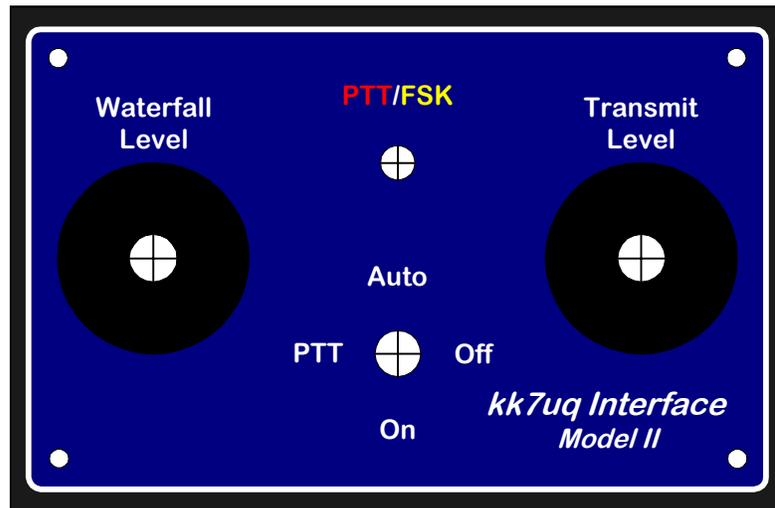

Figure 5.12 Panel Overlay
5.3.2.1.2 Panel Overlay - the overlay for the top cover carries the legends and identification of all functions on the panel. It is produced with an ink jet printer onto photo quality paper, hence it is thicker than normal printer paper and has a glossy finish. A reproduction of the overlay is shown in Figure 5.12. The actual overlay is provided in the interface kit. The overlay is made slightly larger than the panel size itself. This is to provide a trim area after the overlay is glued to the panel.